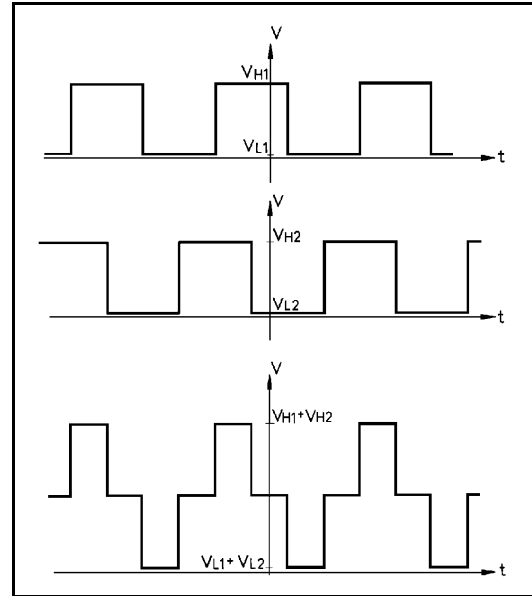

Figure 8-5: Encoder Signals
- Using an oscilloscope, check the signals ( $P_0$  and  $P_1$ ) received from the encoder's two phototransistors. Figure 8-5 shows the wave diagrams which emanate from the two channels of the encoder ( $P_0$  and  $P_1$ ) with respect to the time axis. The top two signals should be clean square waves: